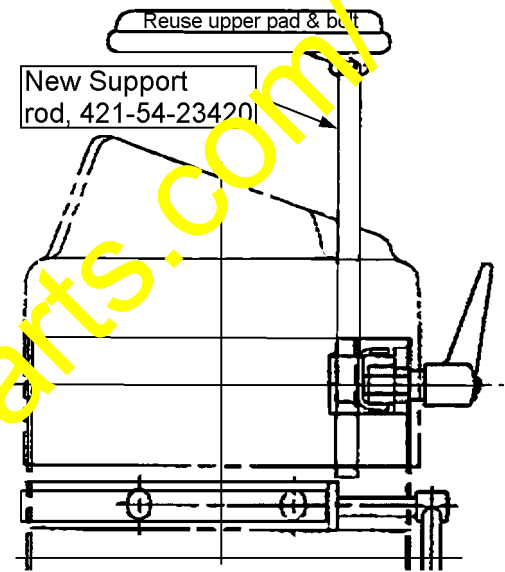

Figure 3
4. Slip the new wrist rest support bar through the yoke assembly in the right console, set the correct height and tighten the lower adjustment lock handle to secure the wrist rest in that position. Refer to Figure 3.